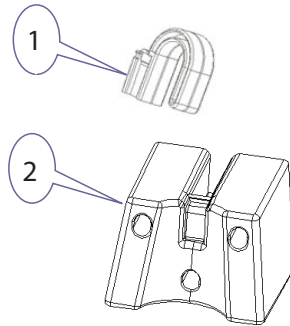

Fig. 8
1. The Wall Mount Assembly includes the Wall Mount Holder (1) and the Wall Mount Base (2)(see Fig. 8). Fasten the Wall Mount Base to the wall with the screws in the accessories polybag.